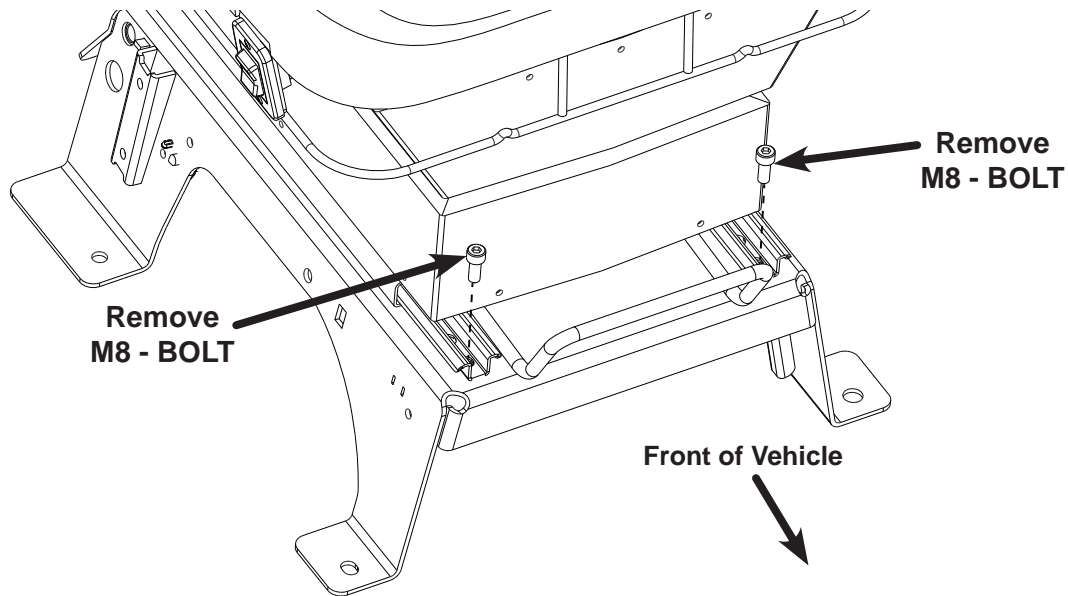

Fig. 5
7. Move seat to full rearward position. Remove and discard (2) M8 Socket Head Bolts using 6M Hex Bit and Ratchet. See Fig. 5